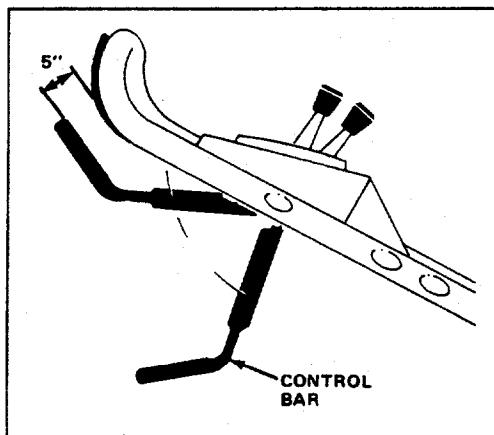

Figure 15
2. Push the control bar shown to the lowest position (Fig. 15). This "lashes" the mechanism prior to engaging the blade.
6. Push the control bar down to its lowest position, latching the mechanism (Fig. 15).
7. Slowly lift the control bar to a point where the bag just begins to inflate (about 5" below the handle) (Fig. 15). This indicates that the mower blade is engaged and has begun to rotate.